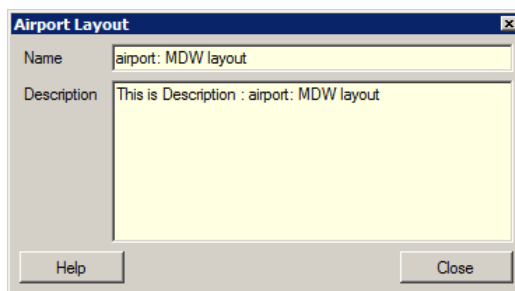

Figure 5-15 Airport Layout Dialog Box
1. In the *Study Hierarchy*, click on the (+) sign next to the airport of interest, and double-click on an airport layout. The *Airport Layout* dialog box will open (Figure 5-15).